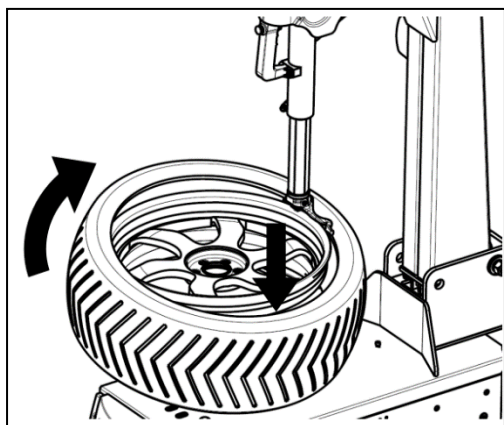

FIG32
- Mount the demount tool again. Adjust the position of the upper lip. Use the assistant press roller and press to press the side of the tire to make partial of the lip into the tire detaching slot (FIG32). Step the turntable rotation pedal to rotate the tire. At this moment, continue pressing the lip just mounted on the rim. When 10~15cm of the tire not into the rim, change to the step mode. And observe the condition of the tire to avoid the tear of the tire. Once you feel there is any tear on the tire, release the pedal at once. Then lift up the pedal by instep to make the motor rotate reverse. Make the tire restore to the original condition to mount again.